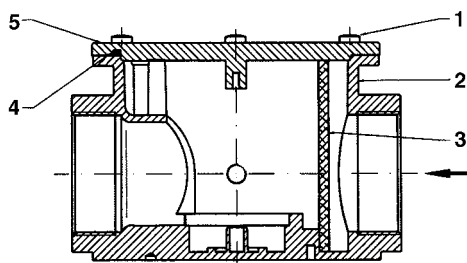
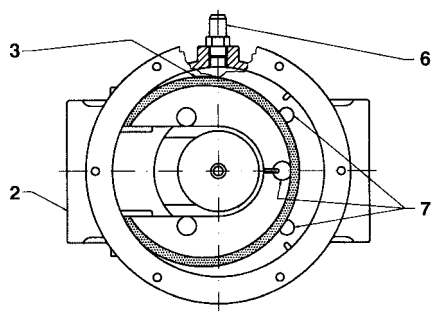

Fig. 27b
Fig. 27c - Top view, without cover
#### Threaded fittings - Fig. 27b and Fig. 27c
After having ensured that there is no pressurised gas inside the filter, remove the cover (5) by unscrewing the fastening screws (1). Remove the filter cartridge (3), wash it in soap and water, blow it with compressed air (or replace if necessary) and put it back in its initial position, checking that it fits between the positioning guides (7) and that it does not stop the cover (5) from being put back in place. Finally, put the cover (5) back in place, making sure that the O-Ring (4, Fig. 27b) is in its seat.
#### Key (Fig. 27b - Fig. 27c)